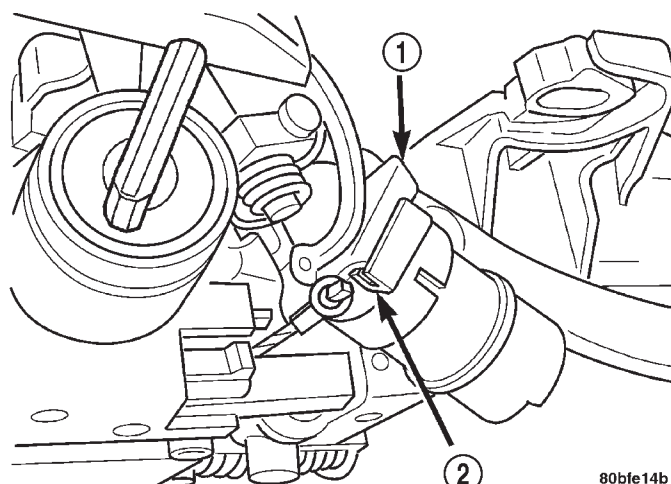

Fig. 73 Guide And Flange Alignment
(2) Slide the solenoid completely onto the shift lever mounting stud aligning the plastic guide formed into the solenoid housing with the flange on the shift lever mechanism bracket (Fig. 73).